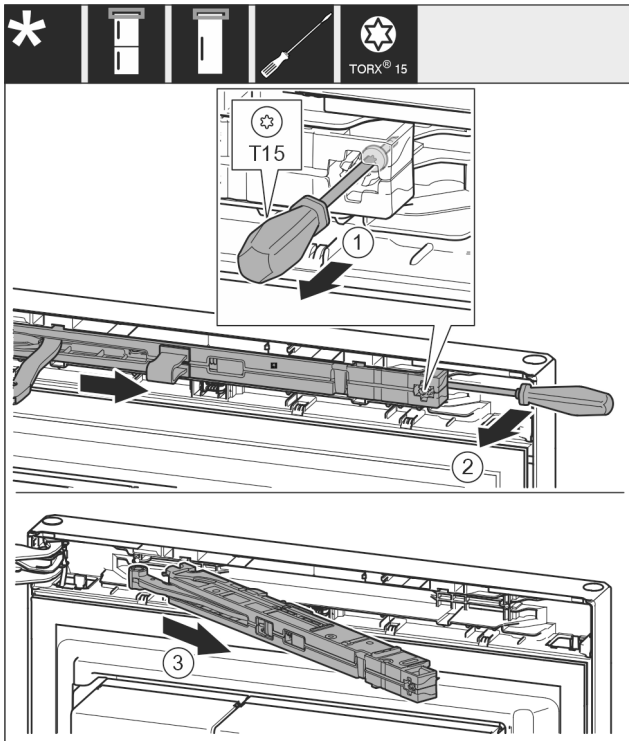

Fig. 9
- Undo the soft stop mechanism screw with a T15 screwdriver approx. 14 mm (9/16 in). Fig. 9 (1)
- Insert a screwdriver behind the soft stop mechanism on the handle side and rotate the unit forwards. Fig. 9 (2)
- Pull out the soft stop unit. Fig. 9 (3)